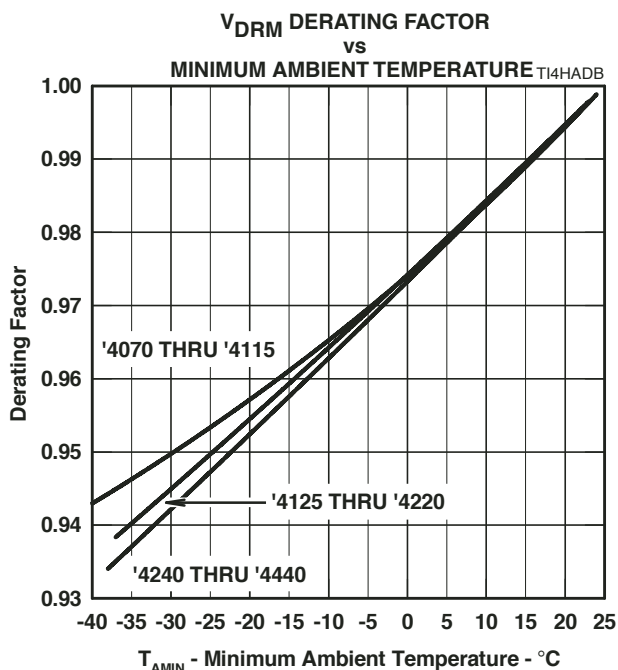
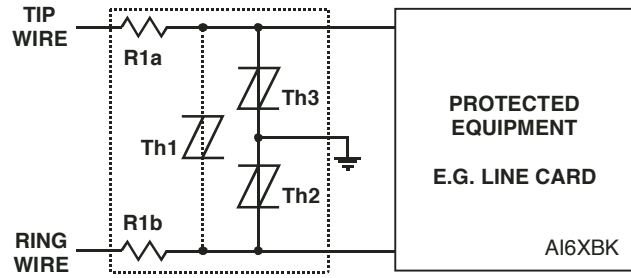
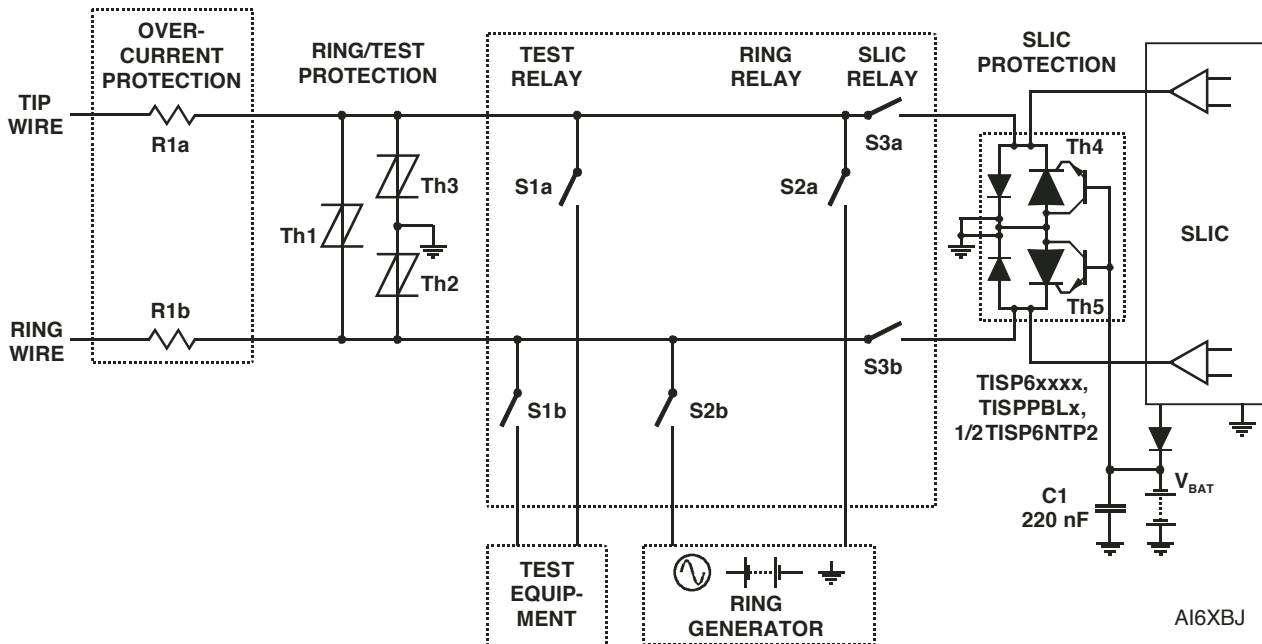

Figure 10.
Figure 15. Protection Module
Figure 17. Line Card Ring/Test Protection
- NOTES: 1. See Applications Information and Figure 10 for voltage values at lower temperatures.
The protector characteristic off-state capacitance values are given for d.c. bias voltage,  $V_D$ , values of 0, -1 V, -2 V and -50 V. Where possible, values are also given for -100 V. Values for other voltages may be calculated by multiplying the  $V_D = 0$  capacitance value by the factor given in Figure 6. Up to 10 MHz, the capacitance is essentially independent of frequency. Above 10 MHz, the effective capacitance is strongly dependent on connection inductance. In many applications, such as Figure 15 and Figure 17, the typical conductor bias voltages will be about -2 V and -50 V. Figure 7 shows the differential (line unbalance) capacitance caused by biasing one protector at -2 V and the other at -50 V.
Figure 10 allows the calculation of the protector  $V_{DRM}$  value at temperatures below 25 °C. The calculated value should not be less than the maximum normal system voltages. The TISP4265H3BJ, with a  $V_{DRM}$  of 200 V, can be used for the protection of ring generators producing 100 V r.m.s. of ring on a battery voltage of -58 V (Th2 and Th3 in Figure 17). The peak ring voltage will be  $58 + 1.414 \times 100 = 199.4$  V. However, this is the open circuit voltage and the connection of the line, and its equipment will reduce the peak voltage. In the extreme case of an unconnected line, clipping the peak voltage to 190 V should not activate the ring trip. This level of clipping would occur at the temperature when the  $V_{DRM}$  has reduced to  $190/200 = 0.95$  of its 25 °C value. Figure 10 shows that this condition will occur at an ambient temperature of -22 °C. In this example, the TISP4265H3BJ will allow normal equipment operation provided that the minimum expected ambient temperature does not fall below -22 °C.